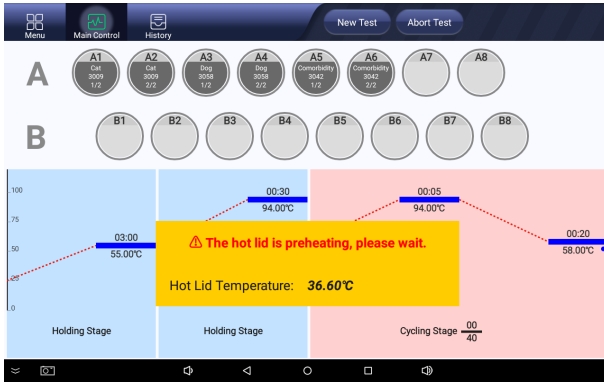

Figure 6.2.1
- ① The heated lid is preheated to set temperature. The main control interface display the progress of the heated lid's temperature change, as shown in Figure 6.2.1: